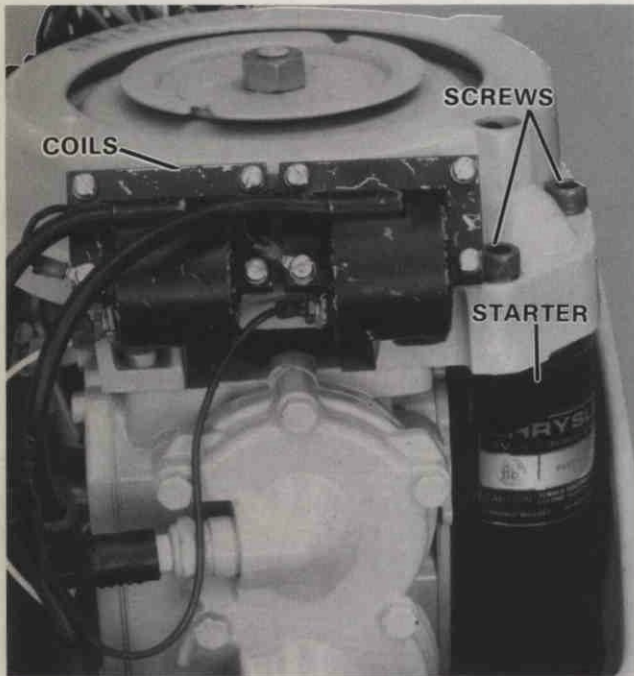

Figure 11. Removing Coils and Starter.
2. Remove coils, lay in support plate, Figure 11.